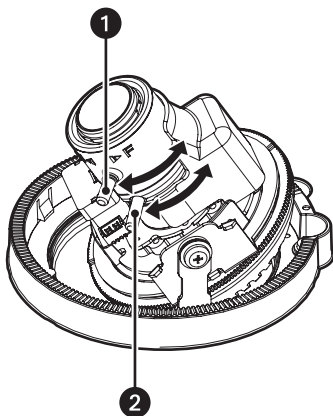

Figure 38. Adjusting the Zoom and Focus
6. Loosen the zoom lock lever and move the lever between TELE and WIDE to obtain the appropriate angle of view (refer to Figure 38).